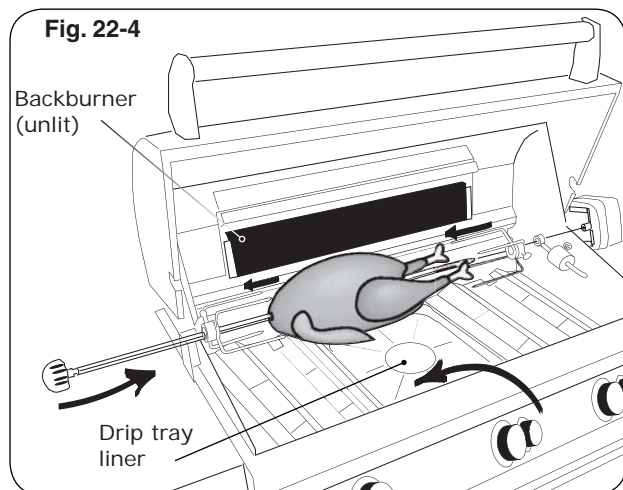

Fig. 22-4
4. Slide the left meat holder onto the rod (and tighten), the meat onto the rod and into the holder, followed by the right meat holder onto the rod and into the meat as shown in Fig. 22-4. Tighten the right meat holder. Be sure the meat is centered and balanced as well as possible.
11. To keep drippings off the burners and simplify cleanup, place Fire Magic® drip tray liners under the meat, if desired (Fig. 22-4).